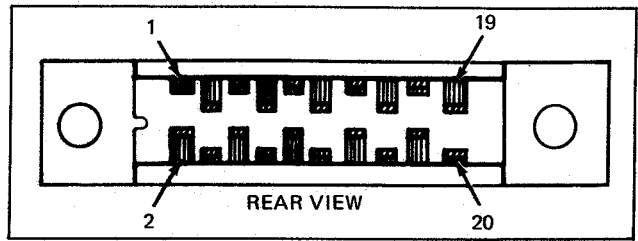

Figure 602-2. DOU MATING CONNECTOR DETAIL
- i. Install the wires on the mating connector for the interfaced instrument using the DOU connector information given in Table 602-1 and Figure 602-2.